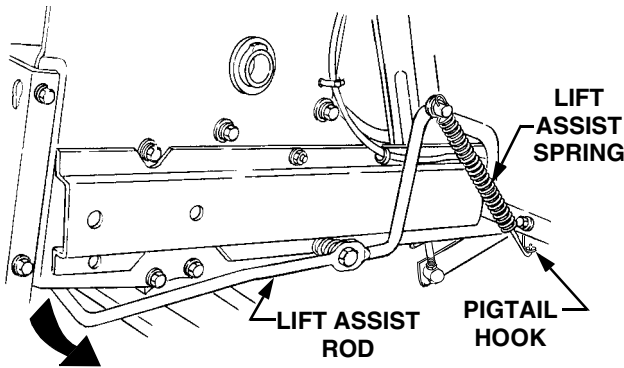

Figure 55
- From beneath the right rear fender, push the lift assist rod down and outward to release from the frame. Disengage the hook of the lift assist spring from the pigtail hook (See Figure 55).